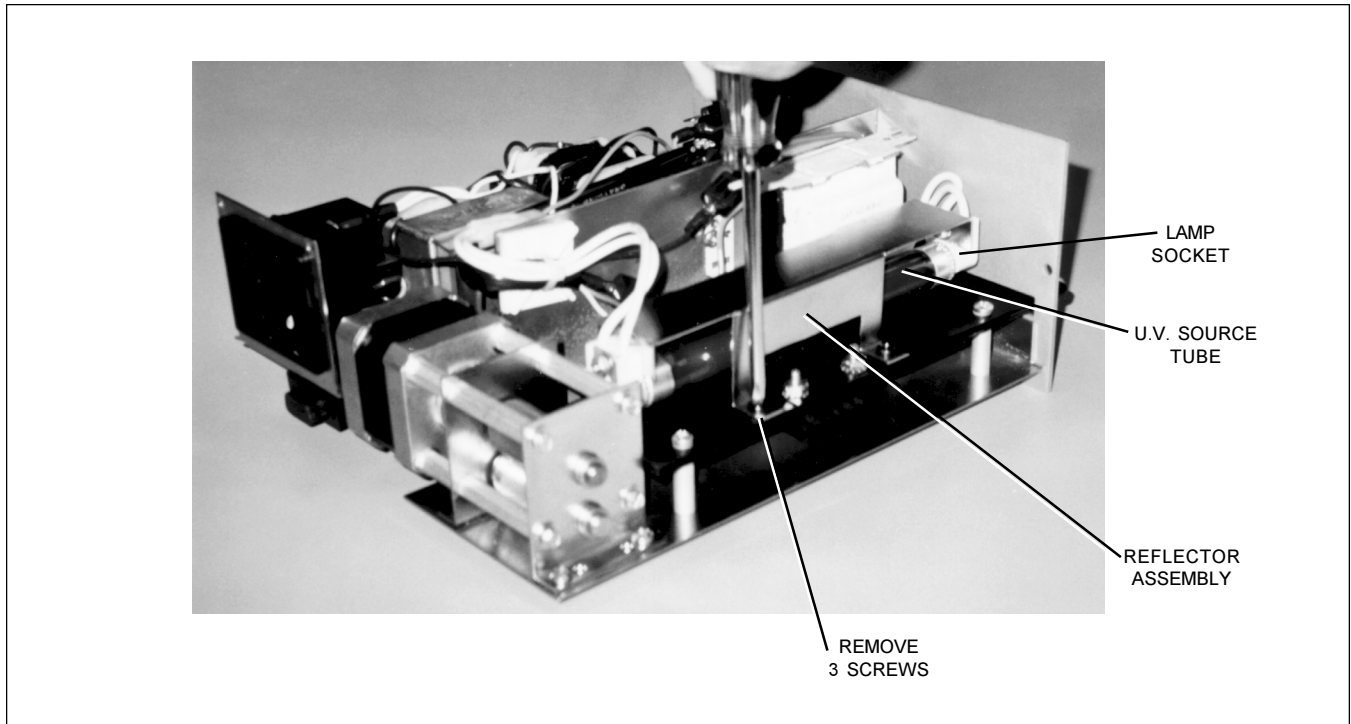

Figure 31 - Removal of Reflector Assembly
3. Remove (3) #6-32 x 3/8" self tapping screws from the reflector assembly. See Figure 31.